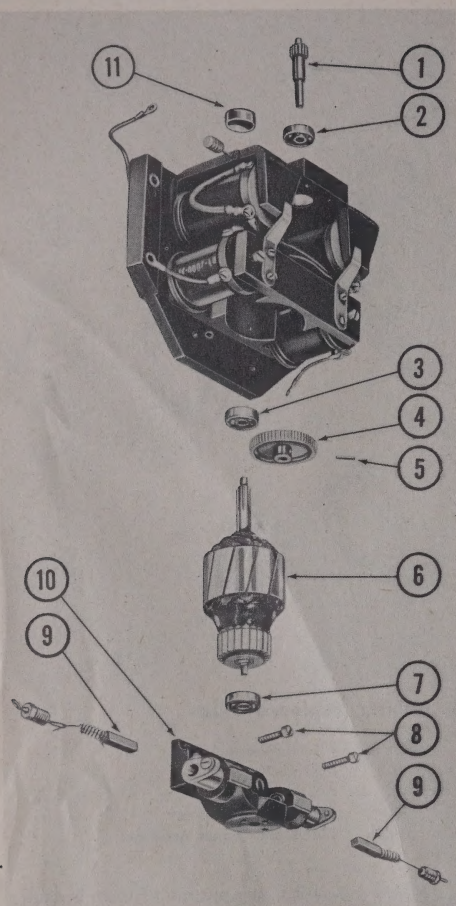

Figure 245 — Torque Motor Armature, End Bracket and Intermediate Shaft and Gears, Exploded
(b) (See figure 245.) Disconnect the brush leads from the brush holders by removing the two binding-head screws. Use a $\frac{1}{4}$ -inch wrench to unscrew the brush adjusting plug. As the first brush assembly (9) is removed, scribe the brush holder on that side with a single mark. Also, scribe the top edge of the carbon brush with a single mark. Scribe the opposite brush and the opposite brush holder with two marks.